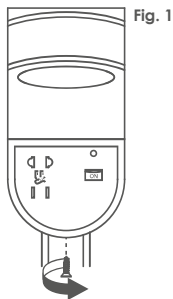

Fig. 1
1. Remove the screw located at the bottom of the holder as shown in Fig. 1, then remove the cover.